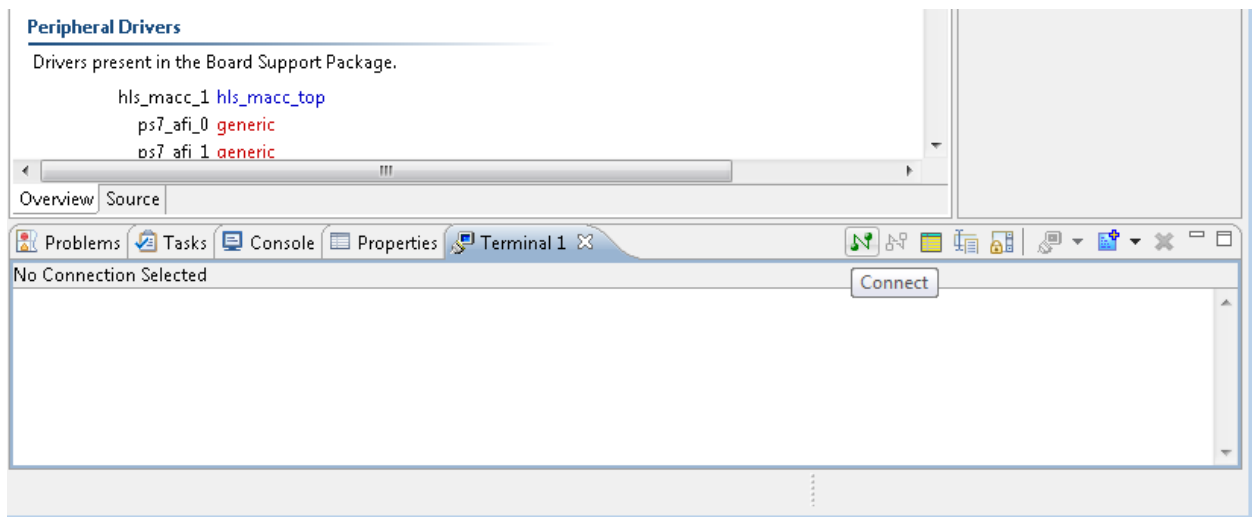

Figure 240: The Connect Icon
- a) Click the **Connect** icon (Figure 240).